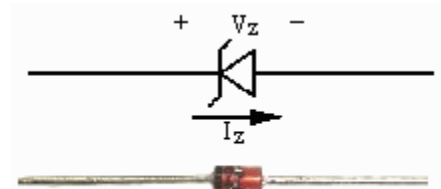

Fig 1 Zener Diode
3. Build the circuit with the standard resistor and measure V_S , V_D and I_D . See Fig 1 for the Zener diode marking.